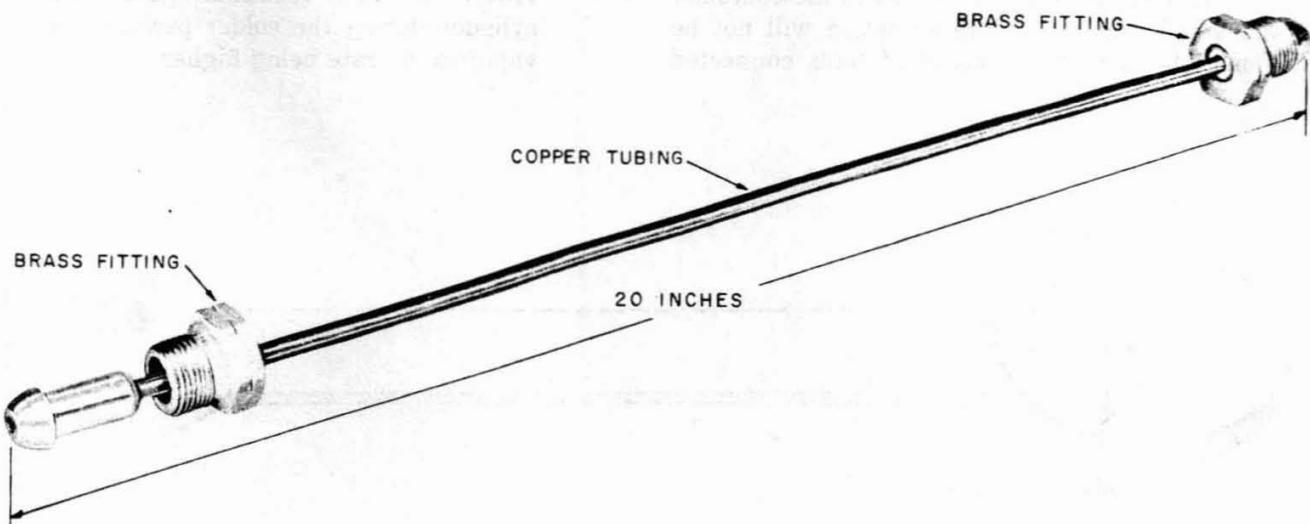

Fig. 5—B Propane Connector
5.10 The B Propane Connector consists of a 20-inch length of copper tubing with a fitting for cylinder valve outlet on each end as shown in Fig. 5.